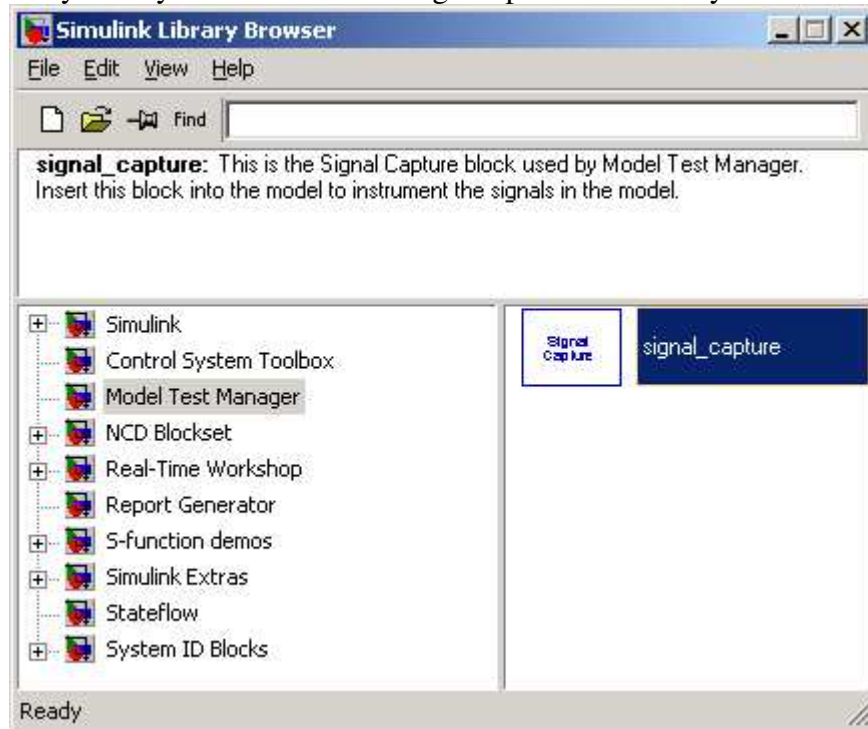

Figure 3: Screen shot of Simulink® Library browser with Model Instrumentation library selected
- c. Drag and drop “signal_capture” element into the root level of the model that needs to be instrumented. The resulting block should look like the blue “Signal Capture” block in the example model (see Figure 3).